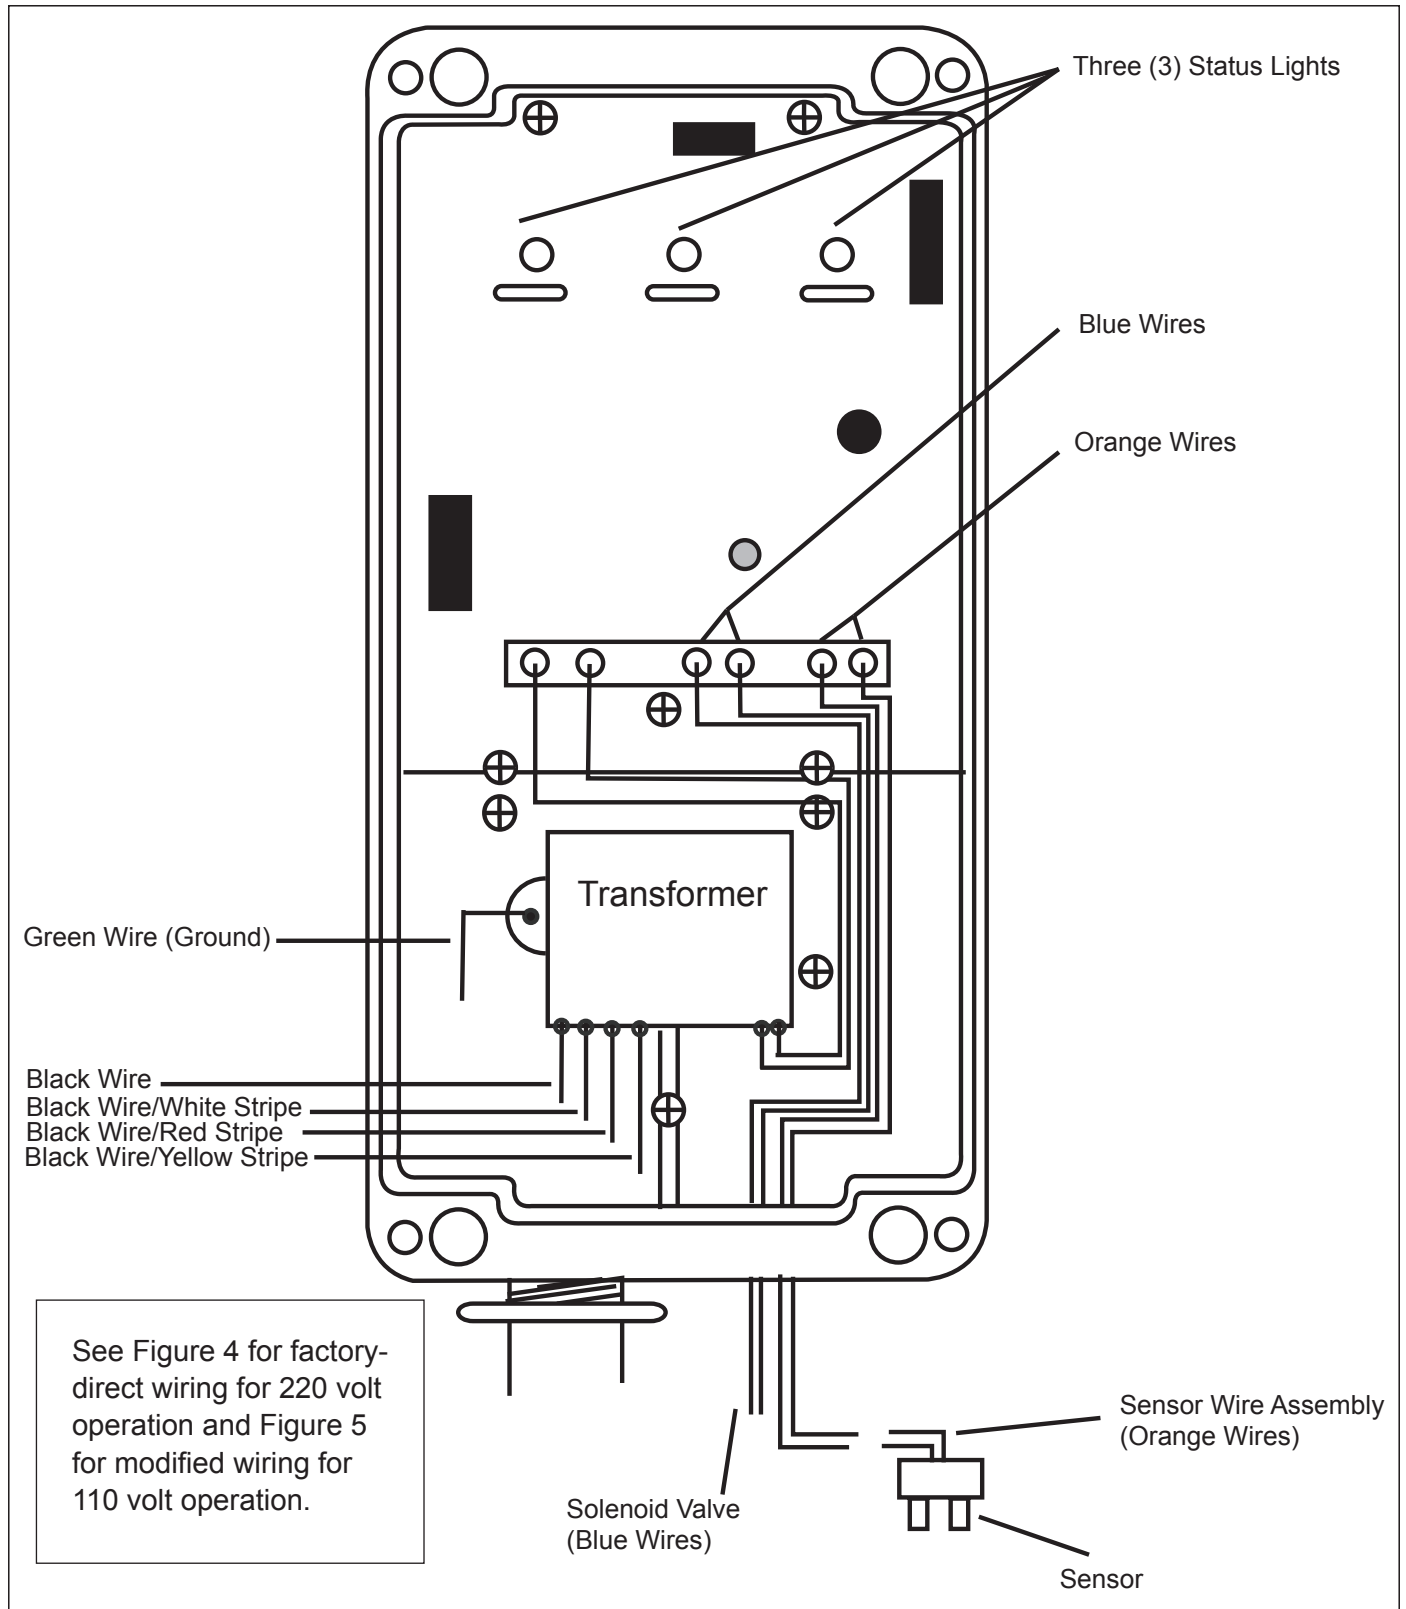

Figure 3. K-1100 Control Box
Models K-1100 and LX2: Connect the sensor cable to the two (2) orange wires in the control box using small blue wire nuts. See Figures 3 and 6.